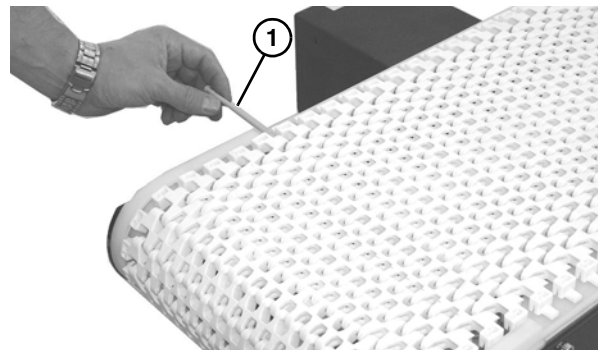

Figure 21
1. Use a punch and hammer to push the belt rod (Figure 21, item 1) out by striking the rod end opposite the retaining head.